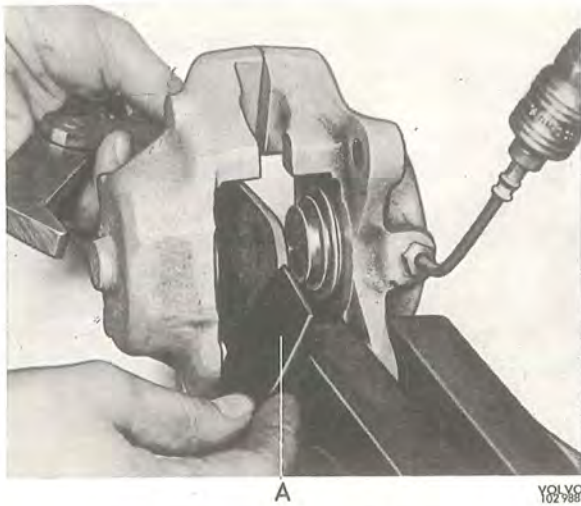

Fig. 5-28. Removing the piston
4. Fit the rubber covers on the plunger and housing. Fit the lock rings, compare Fig. 5-28.
3. Fit the tool as shown in Fig. 5-28 with a suitable rubber sealing A for the free cylinder. Press out the piston. Remove the piston and the tool.